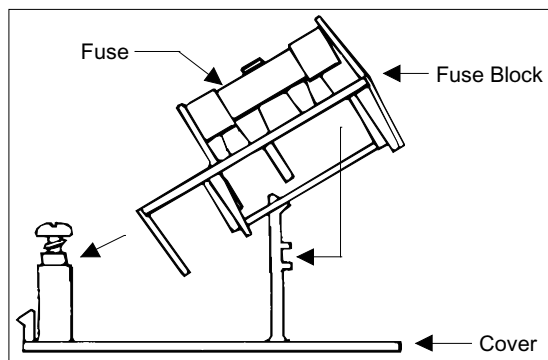

Figure C-3
4. Remove the fuse block (Figure C-3) by sliding it up and away from the screw. Lift the block from the pedestal.